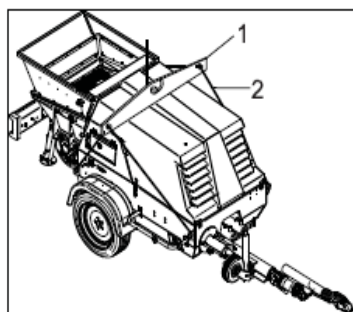

Fig. 5
To lift the machine, use the provided attachment points (Fig. 5), using a yoke (Fig. 5 Ref. 1) (Not provided) and No.4 straps (not provided)
**Never use attachment points other than as specified in the figure (Fig. 5) to lift the machine.**